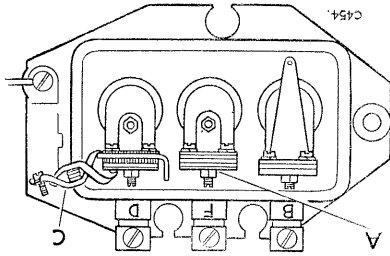

Fig. P-14—Short-circuiting voltage regulator contacts
1. When setting the current regulator on the vehicle, the dynamo must be made to develop its maximum rated output, whatever the state of charge of the battery might be at the time of setting. The voltage regulator must therefore be rendered inoperative. To do this, the voltage regulator contacts should be short-circuited with a clip large enough to bridge the outer armature assembly securing screw and the insulated fixed contact bracket, as shown in Fig. P-14.
3. Slacken the adjustment screw locking nut (see Fig. P-14) and turn the screw in a clockwise direction to raise the voltage setting, or anti-clockwise to lower the setting. Turn the screw a fraction of a turn only at a time and re-tighten the locknut.